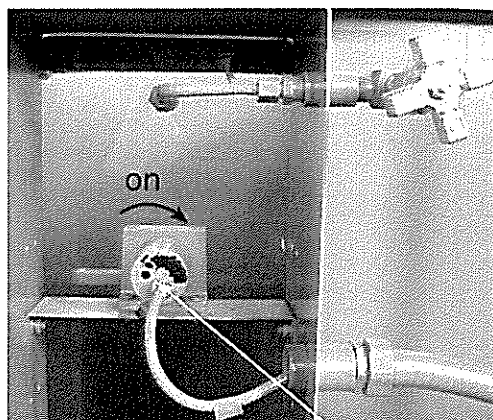

Fig. 54 Sensitivity adjustment
14. **ADJUST LEVEL DETECTOR** The cover screw at the back of the level detector covers the sensitivity adjustment (fig. 54). Remove the cover screw and O-ring. The O-ring provides a seal against dirt and moisture.